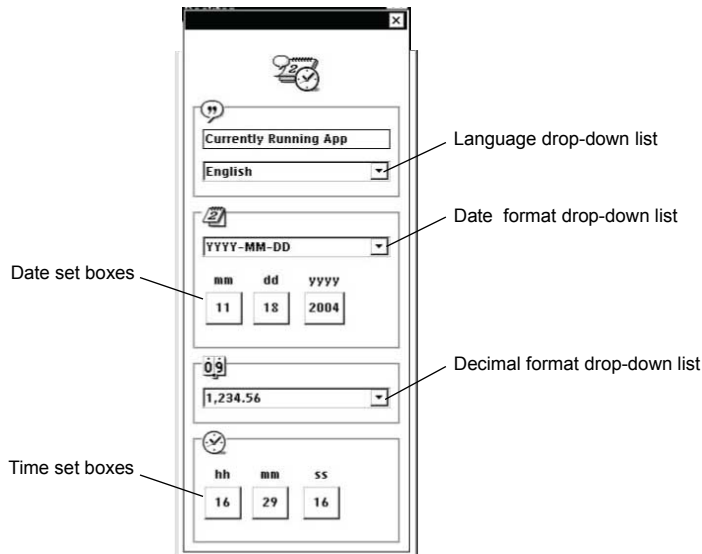

Figure 49. LOCALIZATION screen.
3. Select a language, date, decimal, or time format option (Figure 49).